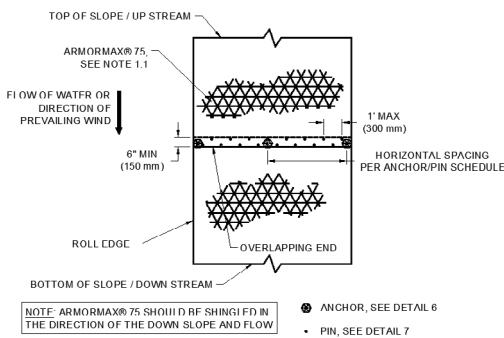

Figure 9: Roll End Overlap
- Roll ends shall be overlapped a minimum of 6 in (150 mm) with upstream/upwind panel on top. Secure roll end overlaps with two rows of pins staggered 6 in (150 mm) apart on 12 in (300 mm) centers and with one row of anchors on intervals based on the slope stability analysis (Figure 9)